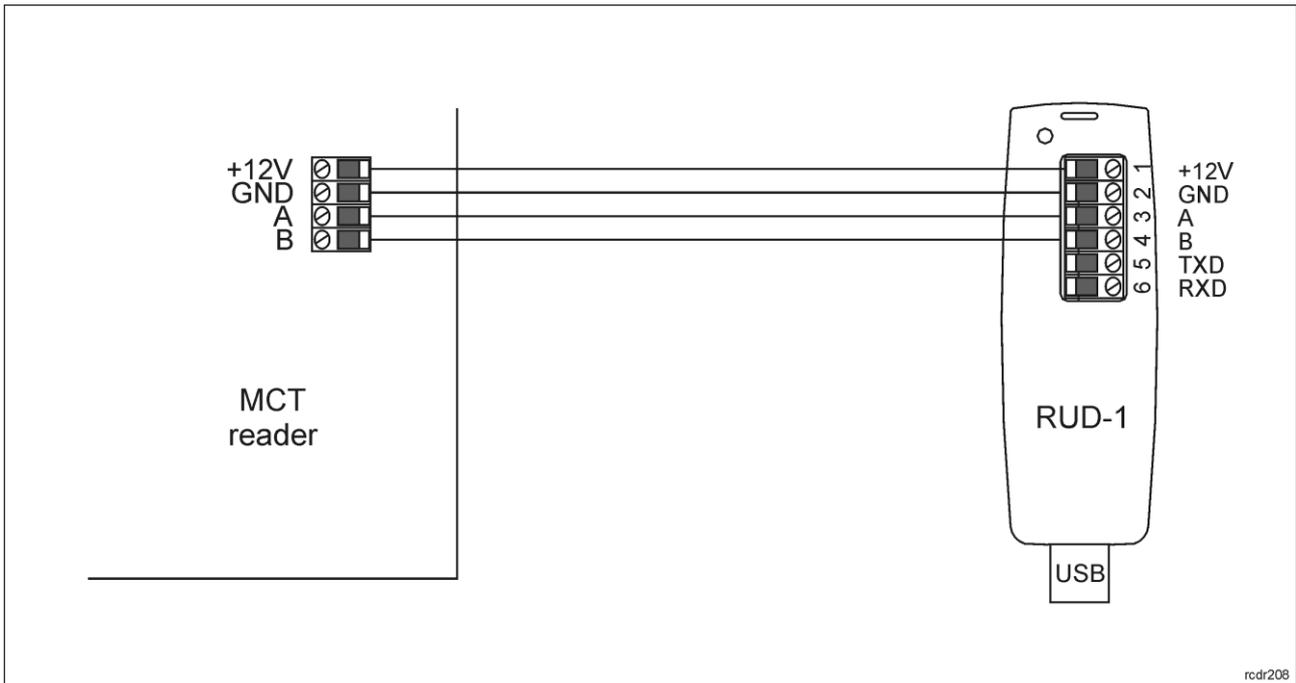

Fig. 8 Connection to RUD-1 interface.
The purpose of low level configuration is to prepare device for operation in RACS 5 system. In order to start the configuration, connect the terminal to RUD-1 interface (fig. 8) and start RogerVDM software.
2. Connect the device to RUD-1 interface (fig. 8) and connect the RUD-1 to computer's USB port. Orange LED SYSTEM will pulsate.
The update requires connection of reader to computer with RUD-1 interface (fig. 8) and starting RogerVDM software. The latest firmware file is available at www.roger.pl.
2. Connect the reader to RUD-1 interface (fig. 8) and connect the RUD-1 to computer's USB port. Orange LED SYSTEM will pulsate.